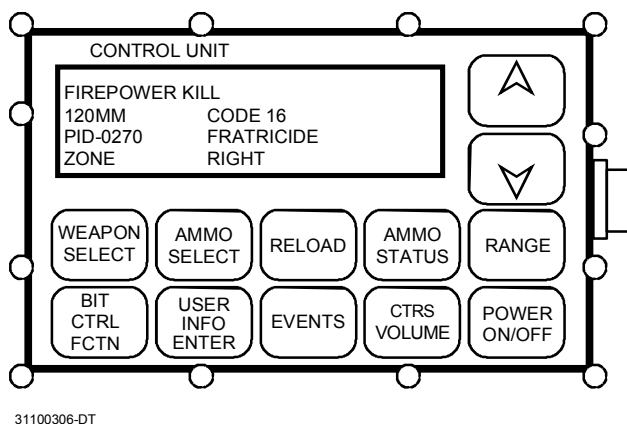

Figure 2-21. Control Unit (CU).
2.6.4 Communications Override Procedures. In the event of a Catastrophic or Communication Kill, the external communications can be over-ridden for emergencies: (See Figure 2-21.)